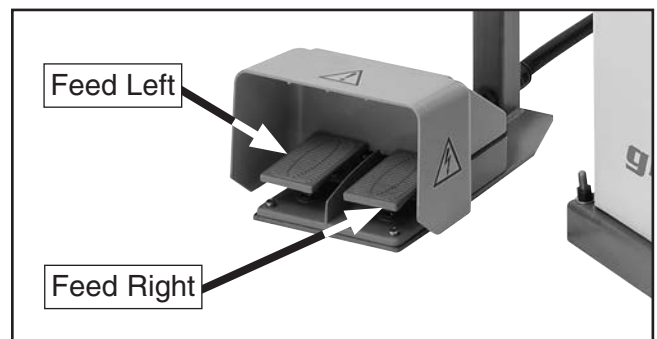
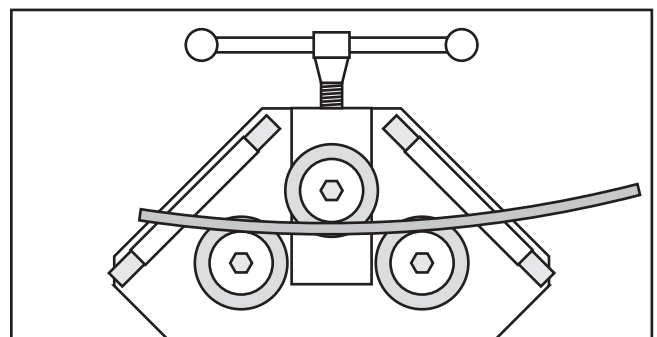

Figure 15. Foot controls for moving workpiece left and right through headstock.
Figure 16. Example of first bending pass.
5. Use foot pedal controls (see **Figure 15**) to move workpiece to left or right to create a slight bend in your workpiece (see **Figure 16**).